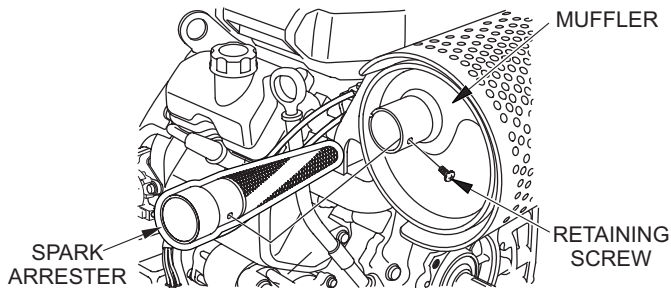

Figure 48. Spark Arrester Removal
1. Remove retaining screw (Figure 48) that secures spark arrester to muffler, then remove spark arrester.